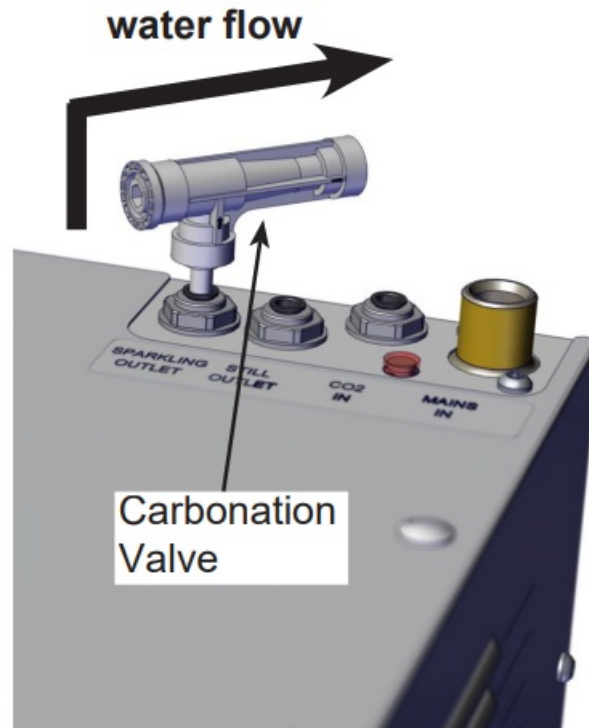

FIG.1
1. Remove the plug fitted into the connection marked “Sparkling Outlet” by first depressing the collet and simultaneously pulling out the plug. Fit the carbonation valve to the sparkling outlet connection on top of the unit as shown in FIG.1.